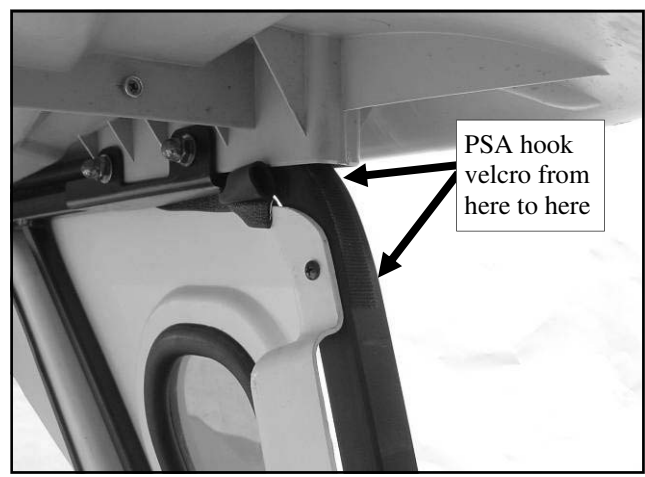

Fig. 3.6 (view from front)
3.6 Per fig. 3.6, install a 3" long piece of the supplied hook velcro to the top curved portion of the roof support tubing as shown. Repeat for opposite side.